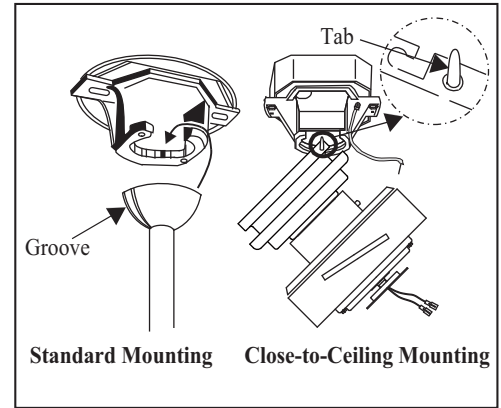
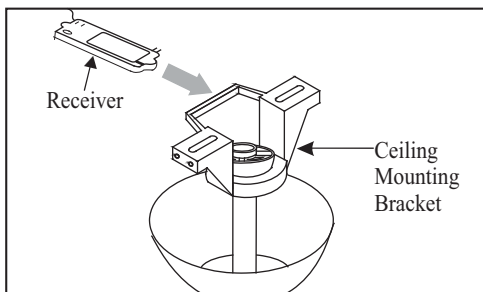

Figure 12
Figure 14
4. Carefully lift the fan assembly up to the ceiling mounting bracket and hang the fan on the tab provided by utilizing one of the holes at the outer rim of the ceiling canopy. (Figure 12) If use standard mounting, seat the hanger ball in the mounting bracket socket. Make sure the tab on the mounting bracket socket is properly seated in the groove in the hanger ball. (Figure 12)
THE TAB AS SHOWN IN FIGURE 12 IS ONLY TO BALANCE THE FAN WHILE ATTACHING WIRING. FAILURE TO HANG AS SHOWN IN FIGURE 14 MAY RESULT IN TAB BREAKING CAUSING THE FAN TO FALL. TAB MUST PASS FROM INSIDE TO OUTSIDE OF CANOPY.
1. Insert the receiver into the mounting bracket with the flat side of the receiver facing the ceiling as Figure 14.